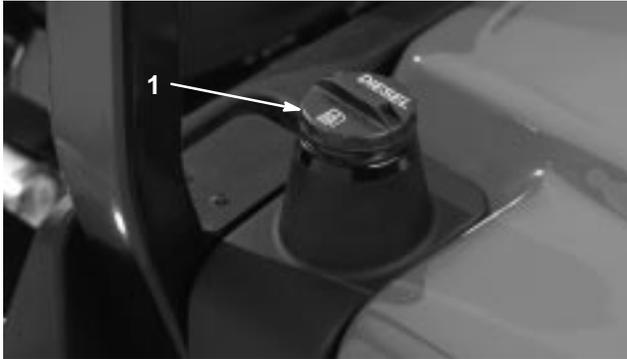

Figure 4
1. Remove the fuel tank cap (Fig. 4).